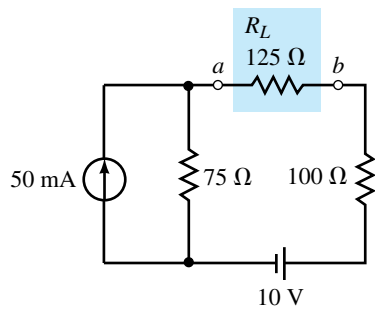

FIGURE 9-102
- 43. If the indicated portion of the circuit in Figure 9-102 is to be replaced with a voltage source and a 50-Ω series resistor, determine the magnitude and polarity of the resulting voltage source.
- 44. If the indicated portion of the circuit in Figure 9-102 is to be replaced with a current source and a 200-Ω shunt resistor, determine the magnitude and direction of the resulting current source.